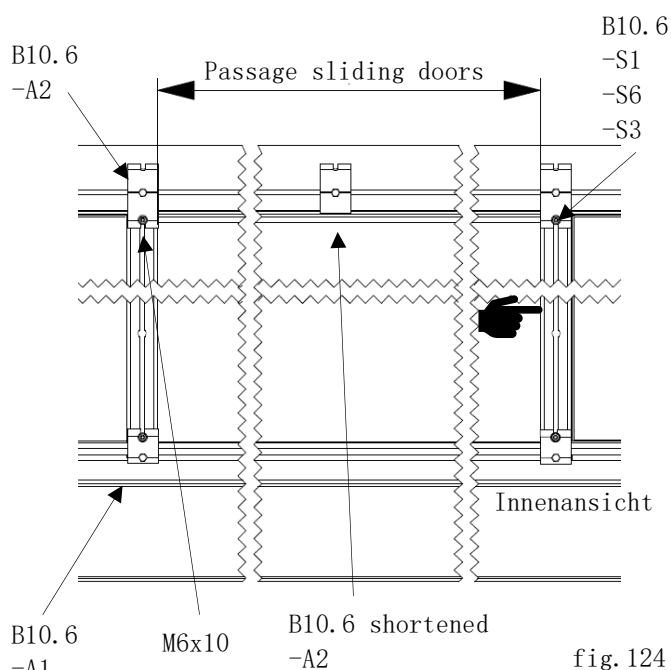

fig. 124
- insert the hexagon head screws M6x12 (item B10.6/ S1) at the bottom into the hole of the 1st side glazing-bar (item 10.1) and pull one upwards and one downwards into the groove of the connector. (fig. 124)
- the 1st side-glazing-bars (item 10.1) is attached to the connectors (item 10.6/A1 and A2) of the floor profile and the BG eaves profile using washers (item 10.6 S6) and hexagon nuts M6 (item 10.6/S4). (fig. 124)
- the hexagon bolts M6x10 are now tightened on the connectors. (fig. 124)